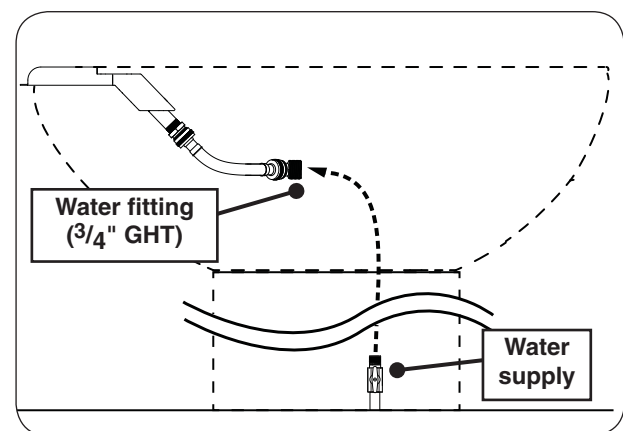

Fig. 31-2 Connect water supply (if applicable)
2. Plumb the water supply to the $\frac{3}{4}$ " GHT fitting (see Fig. 31-2).